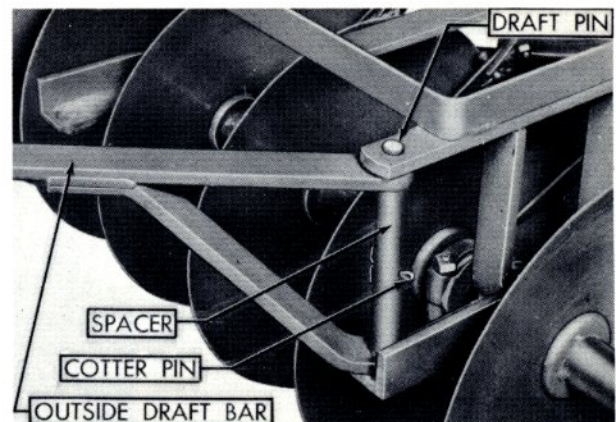

Figure 11
Step 10: Put the spacer in the fork of the outside draft bar and align it with the draft bar holes. Set the fork (straight side up) between the projecting ends of the gang frame assembly. Align holes in frame and fork and insert the draft pin. Align the cotter pin holes in the spacer with the hole in the draft pin and secure with a cotter pin. See Figure 11.